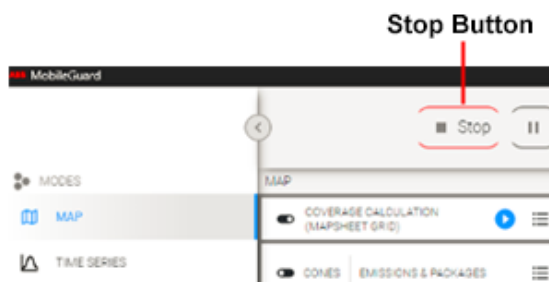

Figure 84 Stop Button
- 6 Click the **Stop** button in the upper left (see Figure 84) to close the test-drive package, and then **Abort** to discard the test run.
- 9 When the survey is complete, click the **Stop** button in the upper left part of the UI (see Figure 84) to finalize the drive package.